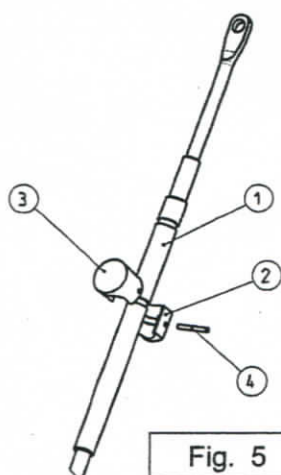

Fig. 5
2. **Use of F05 cables (see Fig. 5):** Insert the lower barrel in the groove, as shown in the Figure. Insert the upper barrel (3) matching it with the lower barrel (2). Insert the elastic pin (4), making sure that the holes of the two barrels are perfectly aligned.